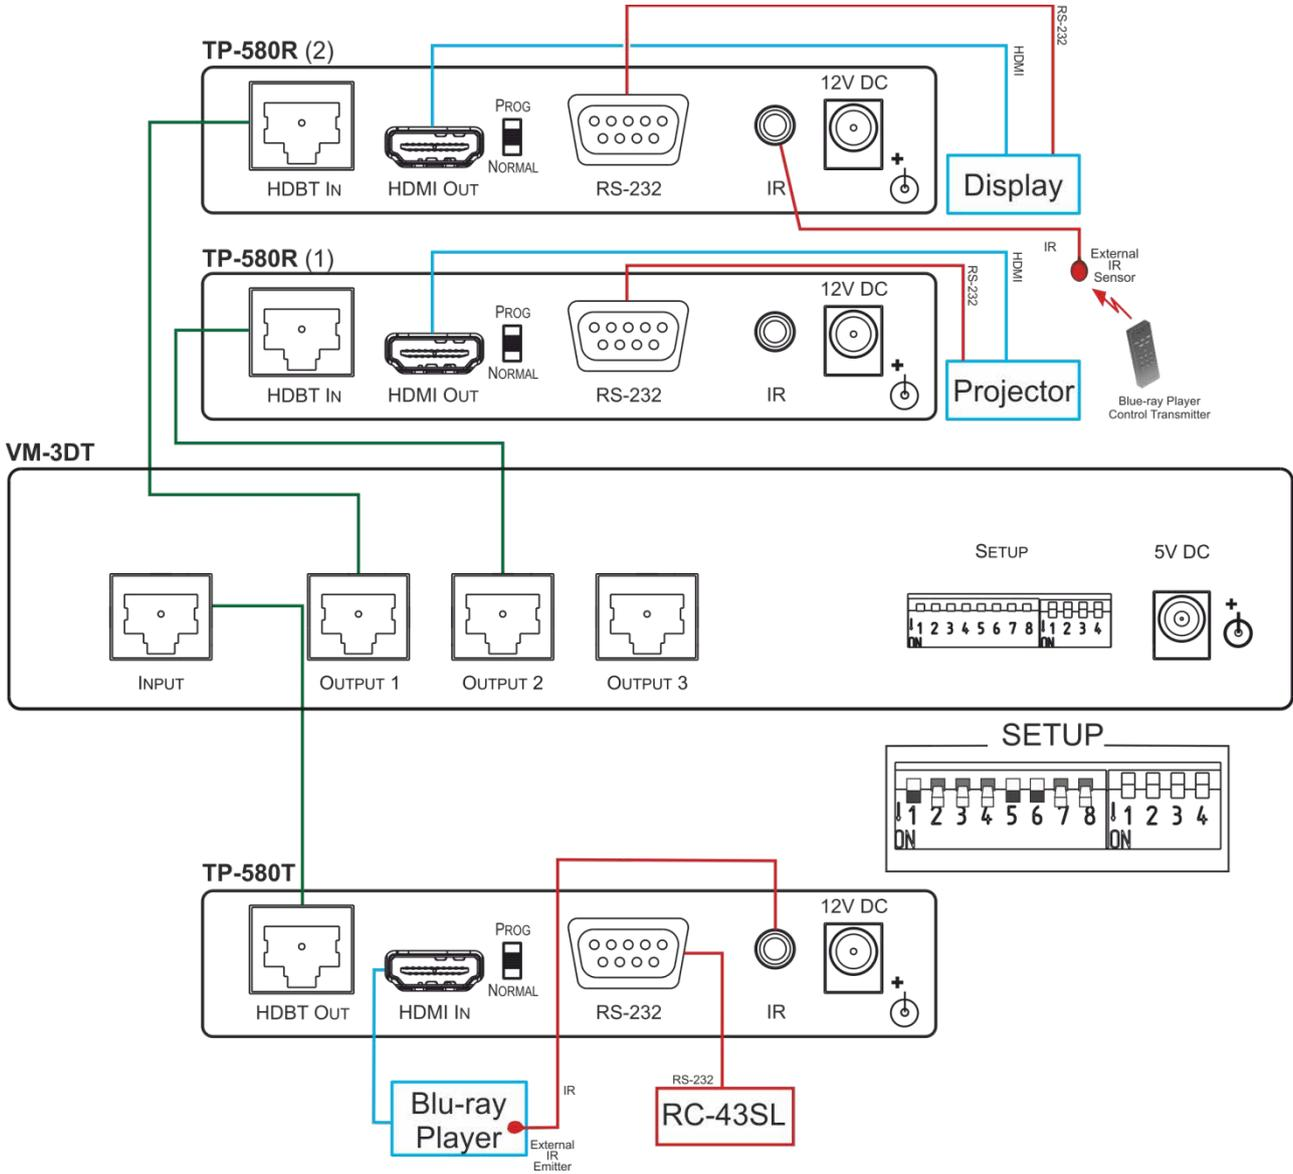

Figure 5: IR/RS-232 Routing Example
The example in Figure 5 shows the **VM-3DT** connected to two **TP-580R** devices. An additional **TP-580R** device can also be connected. The table below summarizes the types of connections:
In the example in Figure 5, an IR emitter cable is connected from **TP-580T** to the Blu-ray player and an IR sensor cable is connected to the **TP-580R** (2) receiver for receiving IR remote signals. This setup lets you remotely control the Blu-ray player via the **TP-580R** (2) receiver device, using the Blu-ray player IR remote control transmitter.
In the example in Figure 5, the Kramer **RC-43SL** control keypad is used to control AV devices that are connected to both **TP-580R** (1) and **TP-580R** (2). **RC-43SL** is connected to the **TP-580T** RS-232 port. The RS-232 ports on **TP-580R** (1) and **TP-580R** (2) are connected to a projector and display, respectively. This type of setup enables you to control the projector and display via the **RC-43SL**.